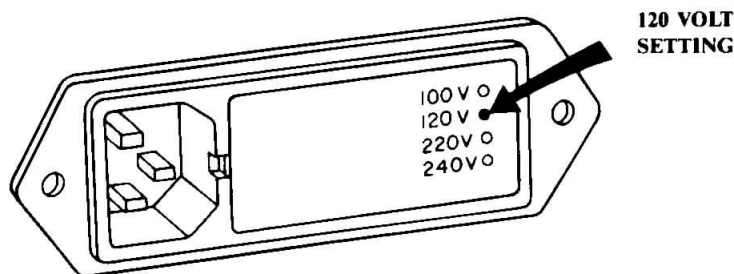

FIGURE 1-1. EXAMPLE 120 VOLT SETTING
- Look at the power entry module on the bottom of the plotter. The power entry module uses a pin to indicate the plotter's voltage setting (see Figure 1-1). Be sure the indicated voltage matches the line voltage at your site (100, 120, 220, or 240 Vac). If not, refer to Paragraph 11.3.